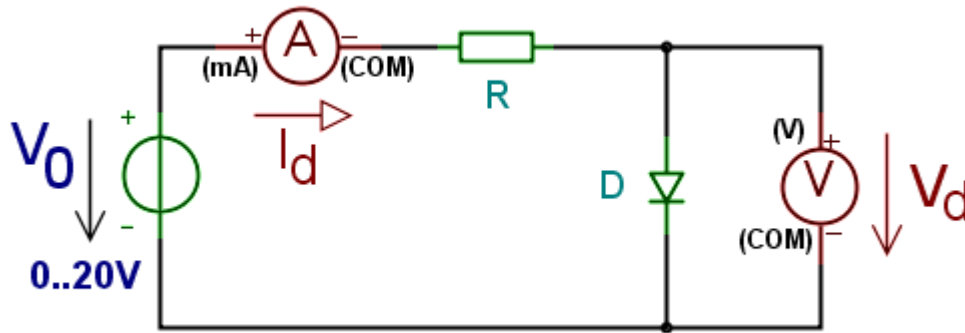

Figure 2: Circuit for measuring forward characteristics
1.1 Build the circuit seen in figure 2. This will be used to measure the forward characteristics of the diode. (The reverse characteristics of the normal diode is not measured, because its breakdown voltage can be several hundred volts.) The value of **R** resistor is **1k Ω** .